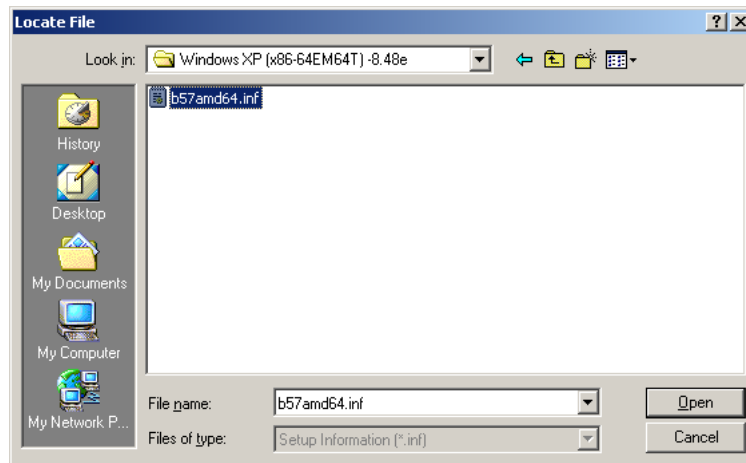

Figure 7-39: Location Browsing Window
Step 10: The **Locate File** window appears (Figure 7-39).